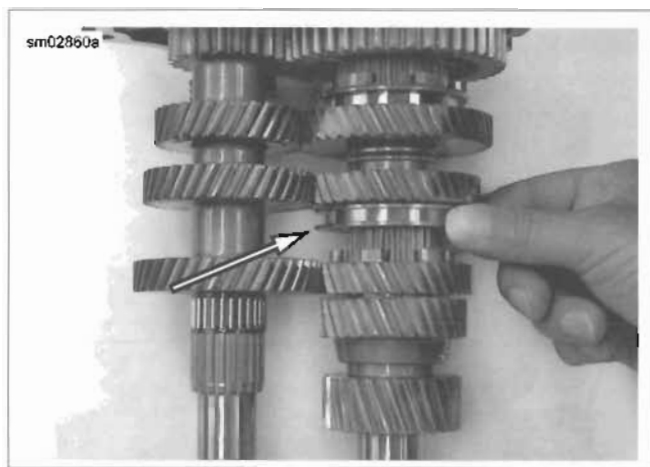

Figure 6-27. Raise and Hold Dog Ring
- See Figure 6-27. Hold dog ring so that it is engaged with countershaft 3rd gear during the press procedure. Otherwise bearing and gear damage is possible.